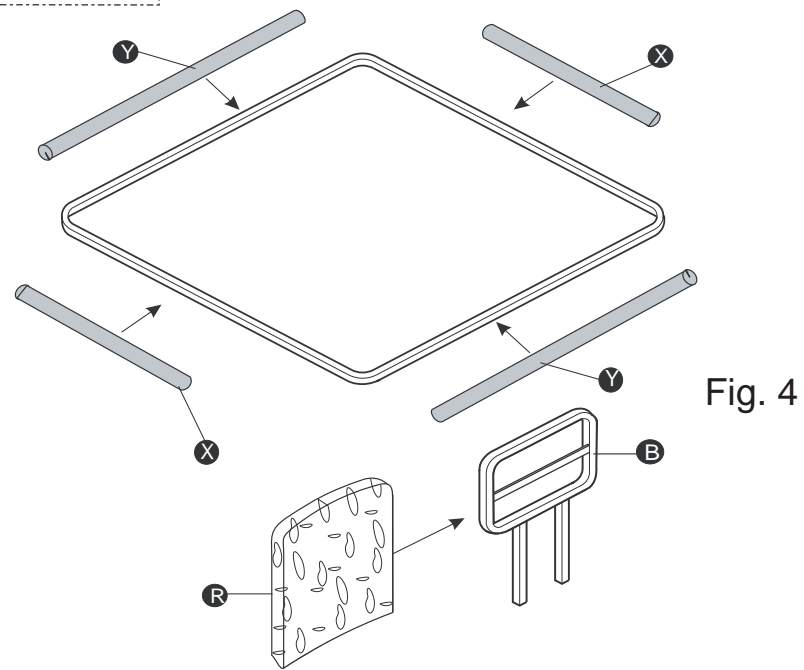

Fig. 4
6. Insert Seatback Cushion **T** to Backrest **N** .(See Fig. 4)
7. Attach Front/Rear Rail Padding **Y** to front and rear of Rail and attach Side Rail Padding **X** to sides of Shooting Rail. Wrap Camo material around Pads. (See Fig. 4)